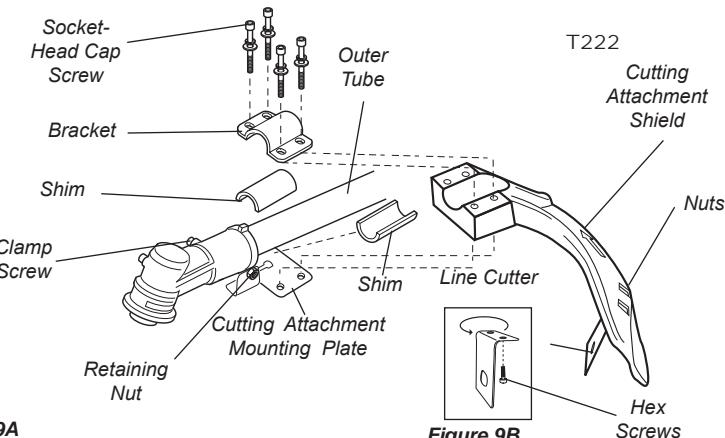

Figure 9A
1. Insert the cutting attachment shield between the outer tube and the cutting attachment mounting plate. See Figure 9A.
2. Fit the two shims and the bracket over the outer tube and loosely install the four socket-head screws. See Figure 9A.